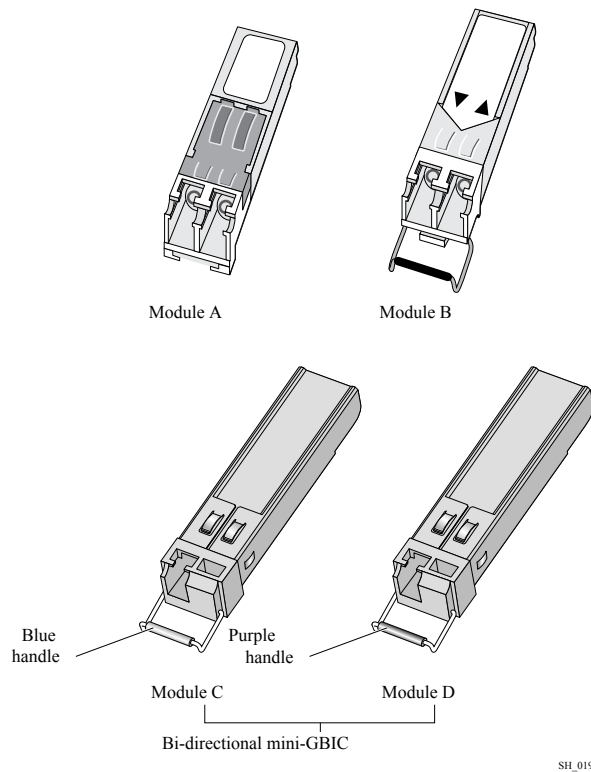
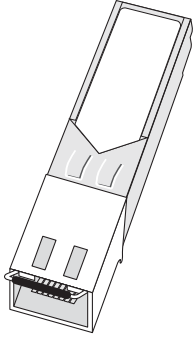

Figure 2: Optical SFP Module Types and Connectors
Figure 3: Copper SFP Module
Figure 2 and Figure 3 on page 38 show the types of SFP modules and connectors.
The bidirectional SFP modules combine two SFP optical devices that must be used as a pair to establish the bidirectional connection over a single fiber. Module C and Module D in Figure 2 show the pair of SFPs for a bidirectional SFP module.
- a. On an SFP module similar to Module A in Figure 2 on page 37, press and hold the black plastic tab at the bottom of the connector.
- b. On an SFP module similar to Module B, Module C, or Module D in Figure 2 on page 37, rotate the front handle down.